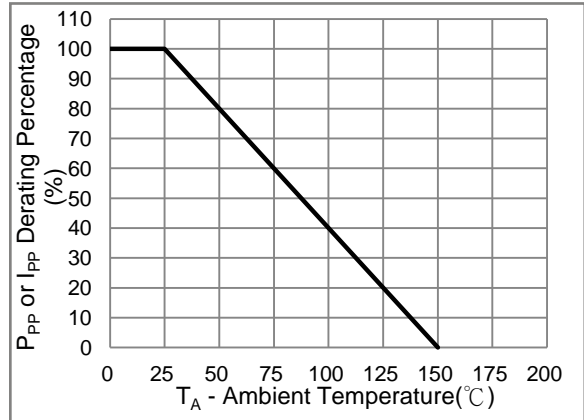
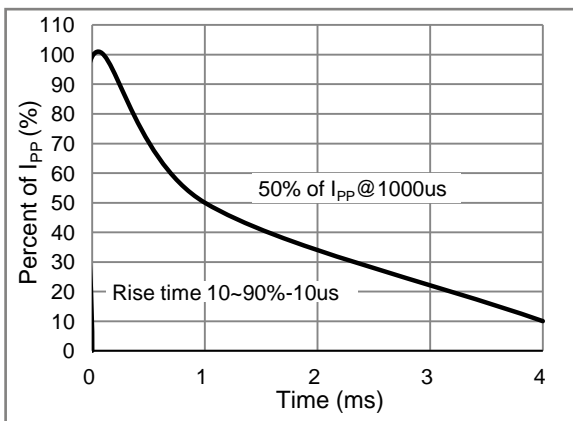

Fig.2 Derating Curve
Fig.3 10/1000μs Pulse Waverform
1. Non-repetitive current pulse, per Fig.3 and derated above T_A = 25°C per Fig. 2.